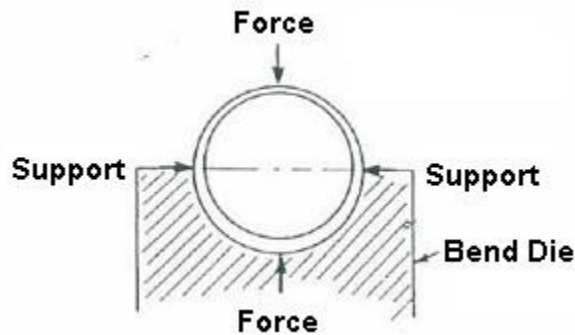

Figure 2
**Functions of bend die:** When the ratio of the tube diameter to wall thickness is small enough, the tube can be bent on a relatively small radius (Centerline radius  $CLR = 4 \times$  tube thickness). Excessive flattening or wrinkling of the bent should not occur. The outside and inside of the bend tend to pull towards the centerline of the tube (flattening). Two factors that help prevent this from happening are a grooved bend die, which supports the tube along the centerline and the natural strength of the tube; round or square (figure 2). **Little or no support is needed within the tube when the tube diameter is small and the wall is thick.** As the size of the tube diameter is increased, the tube becomes weaker. If the wall thickness of the tube is decreased, it also becomes weaker. The forces acting on the tube also becomes greater as the radius of the bend becomes smaller.